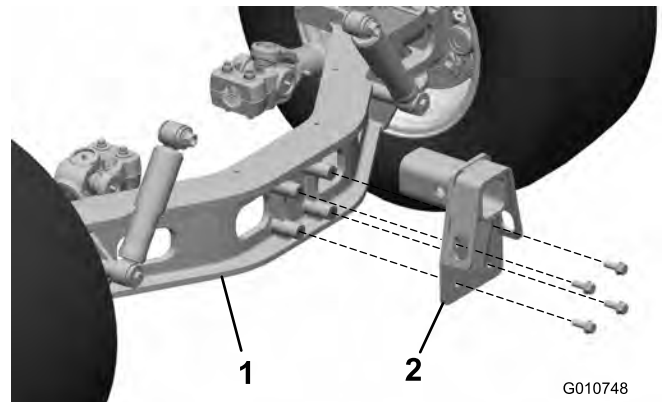

Figure 2
3. Install the receiver tube hitch on the rear axle using the four bolts removed previously (Figure 2). Torque the bolts to 35 to 40 ft-lb (47.5 to 54 N-m).